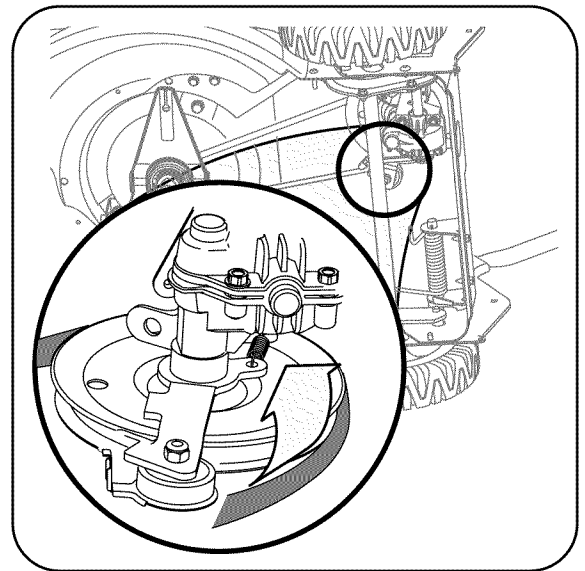

Figure 19
9. Slide the belt out from between the belt keeper bracket and the idler pulley. See Figure 19.